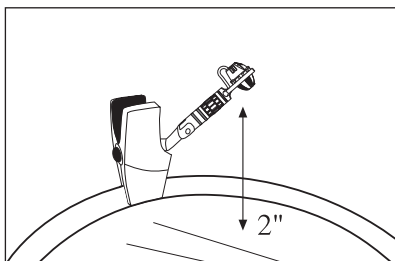

Figure 2
2. Adjust the mic. shaft to aim microphone at precise sound source position, recommended distance between the microphone and the drum surface is 2 inches. (Figure 2)